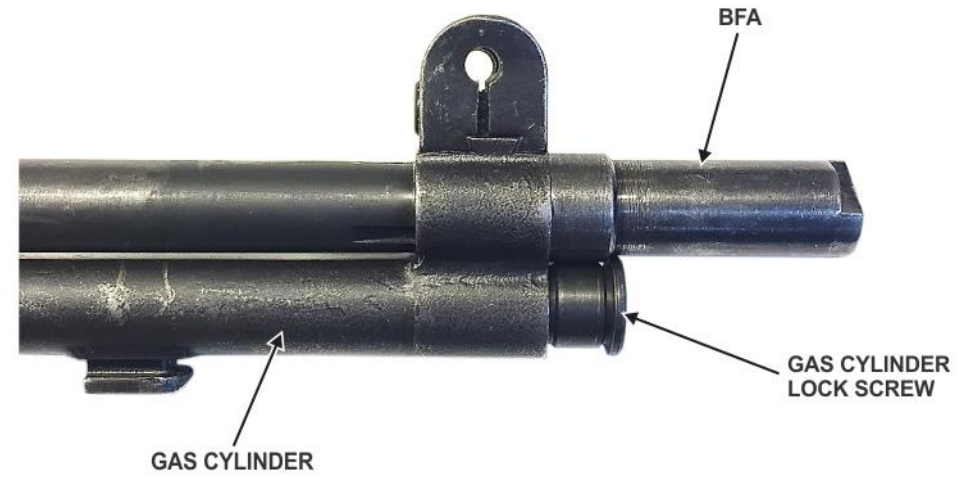

Figure 69: M1 Garand Rifle
1. While holding the M1 Garand Rifle, use a flat tip screw driver to unscrew and remove the **Gas Cylinder Lock Screw** from the **Gas Cylinder** (Figure 69).
- 7. Once the inspections are completed, serviceable rifles and BFAs should be reassembled. Attach the **BFA** onto the **M1 Garand Barrel** until the **BFA** touches the **Gas Cylinder** (Figure 69).